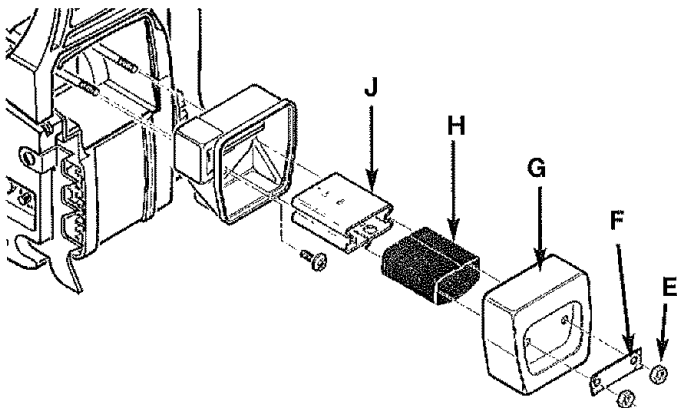

Fig. 34
1. Flatten the corners of the lock plate to be able to access the retaining nuts. Remove 2 muffler retaining nuts (E), Lock plate (F) and muffler cover (G) (Fig. 34).
2. Remove spark arrester screen (H) from the metal baffle (J). Replace screen with new one.